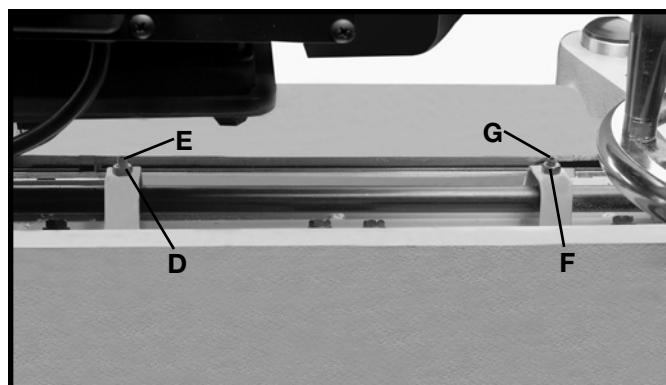

Fig. 41
4. If the height of the chipbreaker must be adjusted, remove the top cover of the machine. Loosen nut (D) Fig. 41, and turn screw (E) until that end of the chipbreaker is properly adjusted. Then tighten nut (D).
5. Place the gage block on the other end of the chipbreaker and if an adjustment is necessary loosen nut (F) Fig. 41, and turn adjusting screw (G).